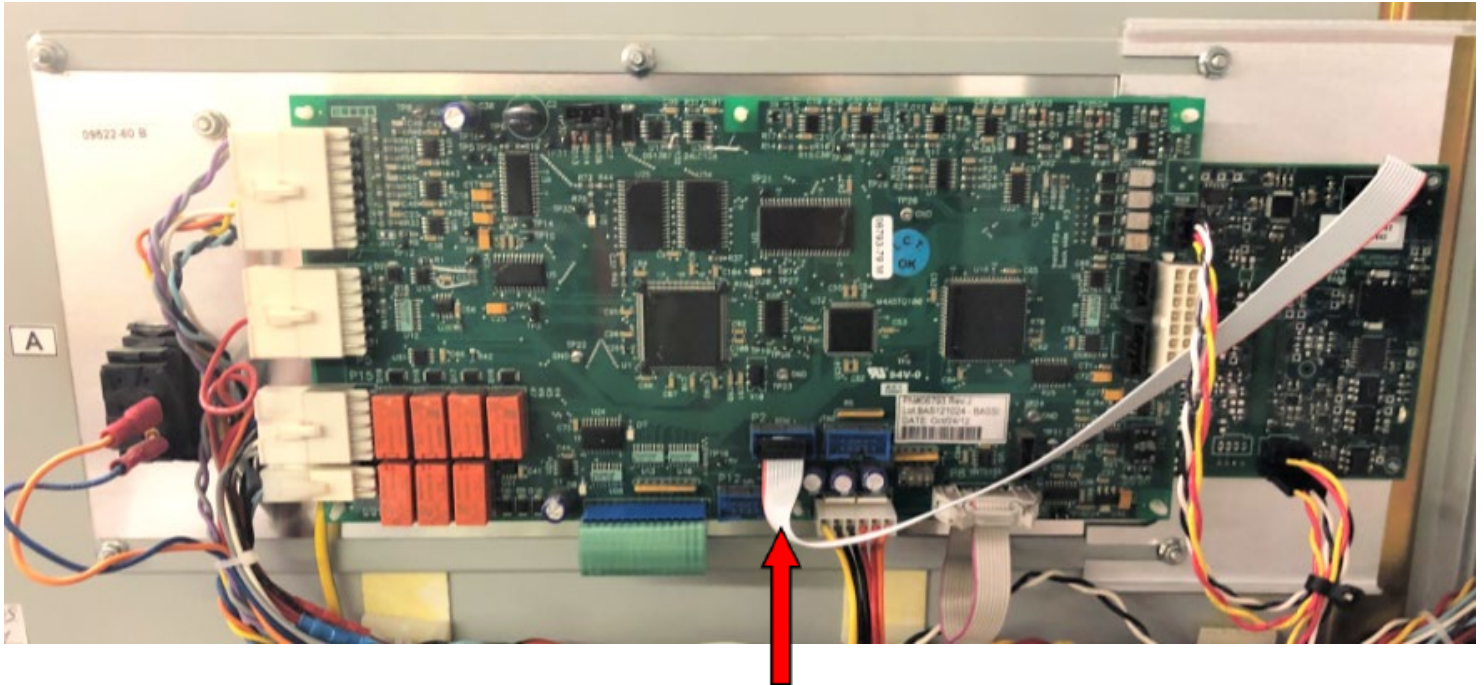

Figure 8 CAN Board Connected to the 5-Volt-Direct-Current (-VDC) Supply, at Port P2, on the Channel A of DVS100/DVS150 Control Board, with the Ribbon Cable
- 4.3.3. Connect the DVS100/DVS150 CAN board ribbon cable connector to port P2 on the Channel A of DVS100/DVS150 control board(Figure 8).